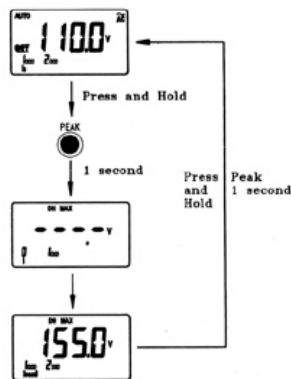

Figure 14. 1 ms Peak Hold Display
- 2) Press PEAK button momentarily to select PEAK+ measurement after entering the peak mode. The display shows "DH MAX" to indicate the PEAK+. See Figure 14.